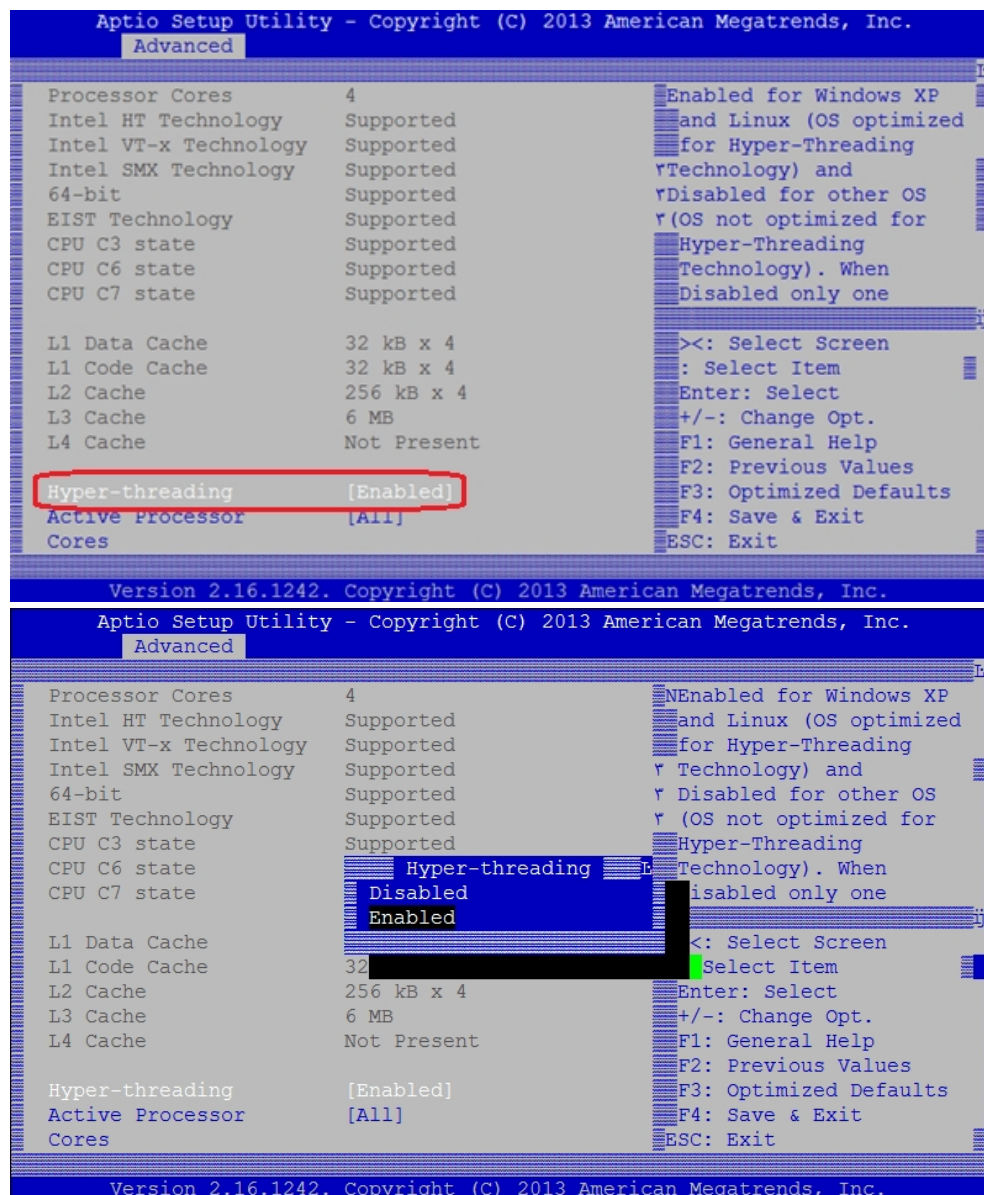

Figure 7-11: Enabling / Disabling BIOS Hyper-threading
3. On the CPU Configuration screen, select *Hyper-threading*, and then select *Enabled* or *Disabled* (Figure 7-11 on the facing page).